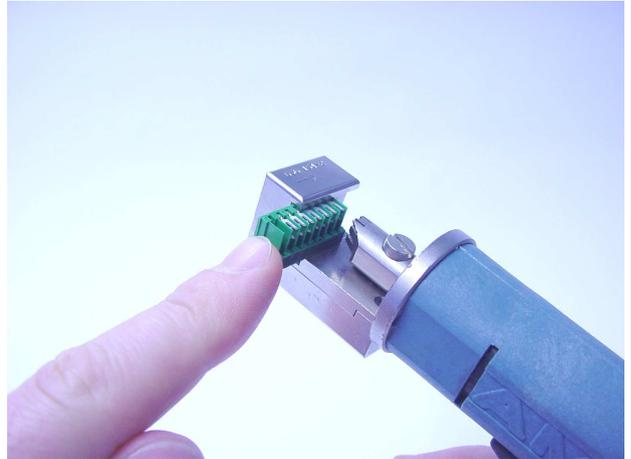

Figure 2
1. The connector to be processed has to be inserted into the transport guide in direction of the arrow, until the first insulation displacement contact is positioned in front of the insertion die (see figure 2)